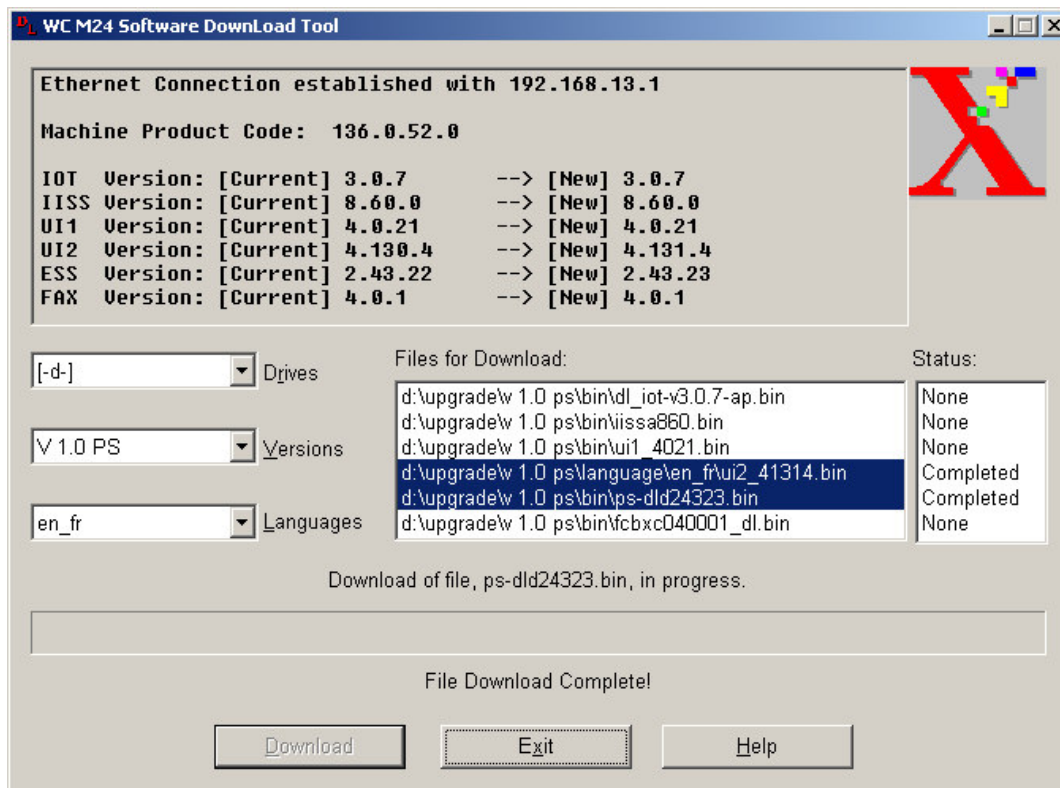

Figure 2
- 20d) After the last file has been downloaded, the download tool will display "File Download Complete!" (Figure 2) on the PWS. Wait until the green LED on the machine UI goes off. Select **Exit** on the **Download Tool** window. Switch off the IOT power.